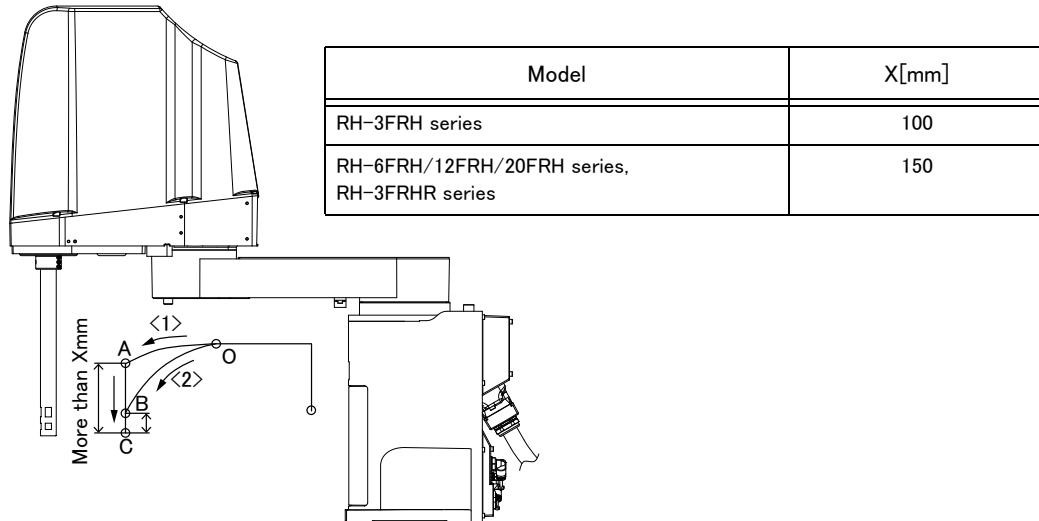

Fig.2-14 : Recommended path when positioning at the bottom edge of the Z axis
- 3) When positioning the work near the bottom edge of the Z axis, if no effectiveness is achieved in step "2)" above, perform operation <1> (robot path: O → A → C). In the case of operation <2> (robot path: O → B → C), residual vibration may occur. (Refer to Fig. 2-14.)